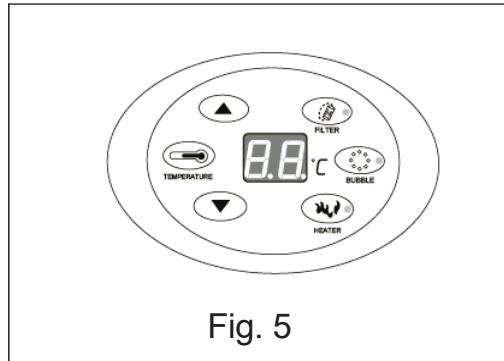

Fig. 5
- Pull the plastic plug off from the outlet in the inner wall of the spa, then the water will flow out (Fig. 5).